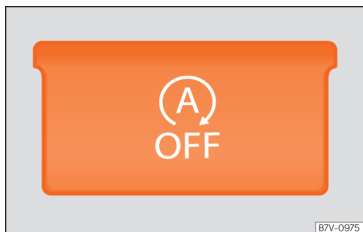

Fig. 236 Detailed view of the centre console: Start-stop operation button.
- To manually switch on/off the Start-Stop system, press the  button »» Fig. 236.